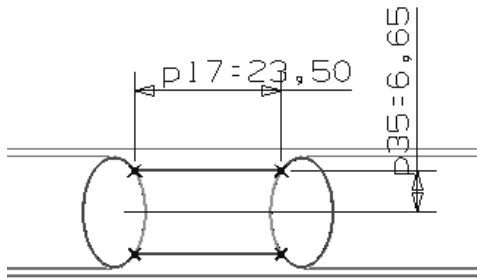

Figure 11-93 The first section curve drawn to create the through curve mesh surface
3. Select edges and create the profile, as shown in Figure 11-93. Exit the **Sketcher** environment.